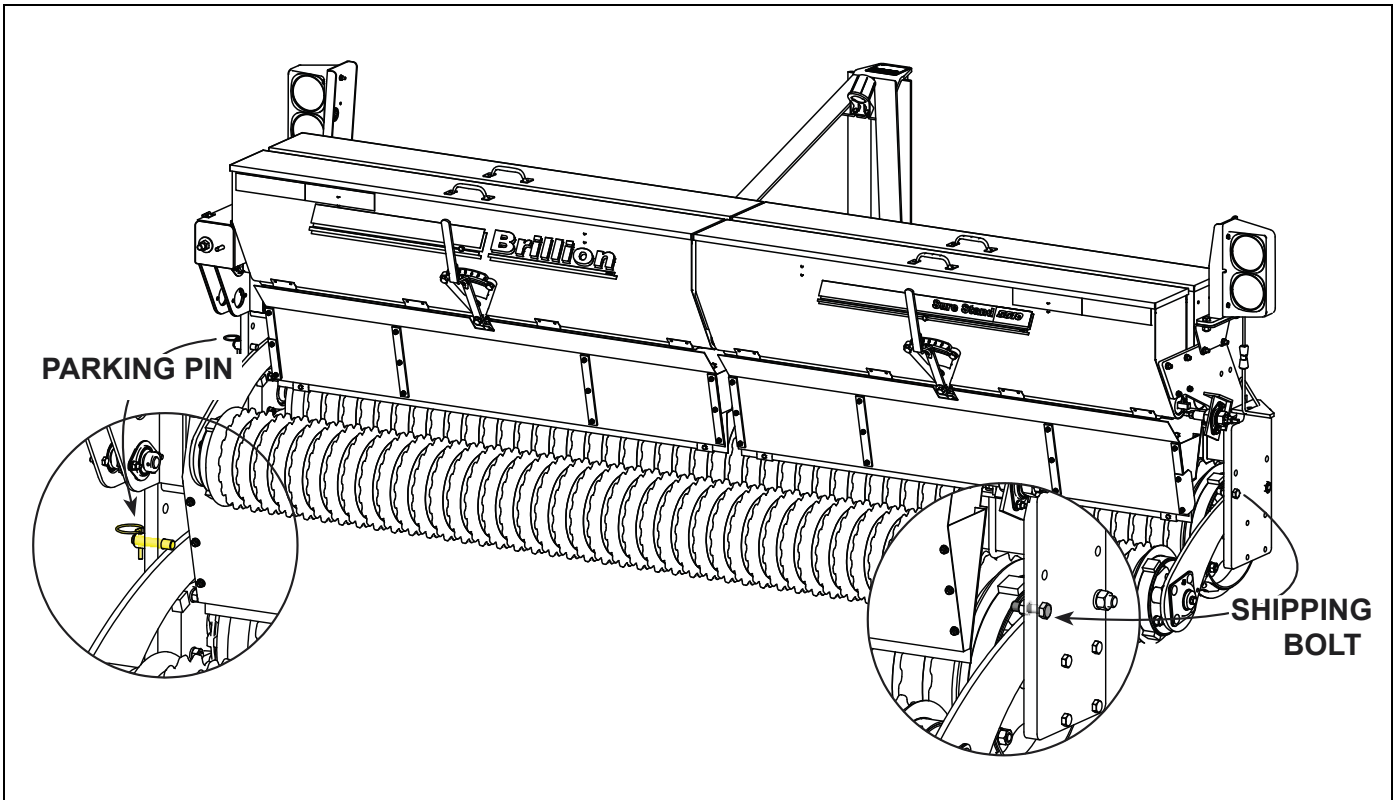

Figure 2-18: Parking Pin and Shipping Bolt
3. Remove the 5/8" shipping bolt from right side of frame which locks rear roller down. Bolt is located in a position similar to the parking pin. See Figure 2-18.